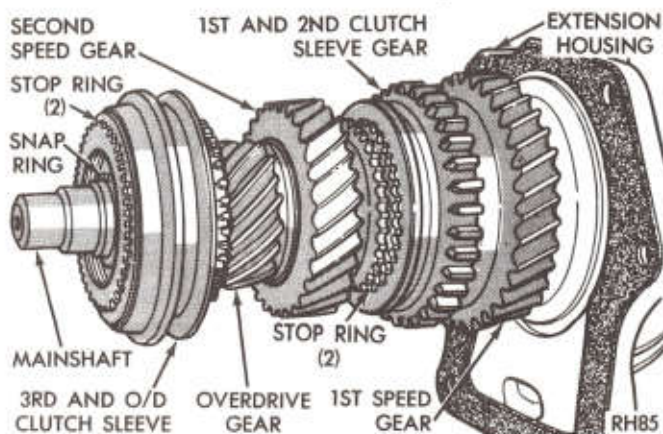

Fig. 16—Mainshaft Gears Identification
(11) Refer to Figure 16 for location of various gears, synchronizer sleeves and clutches before disassembling mainshaft.